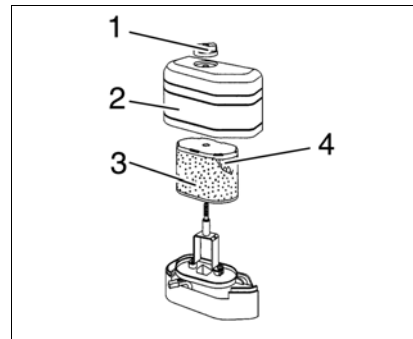

Fig.22 Air cleaner components
- Unscrew fixing nut (Fig. 22/1) and remove filter cap (Fig. 22/2).
- Remove pre-filter and air cleaner (Fig. 22/3 + 4) by pulling and proceed to dry cleaning or replace if required.